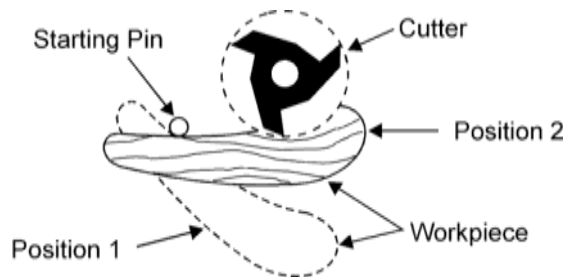

Fig. 40
When the workpiece is not contoured all around, start the cut as shown in Fig. 40. With this operation, the workpiece is positioned against the starter pin and the end swung into place to start the cut. When the cut has begun and the workpiece firmly against the collar, swing the stock away from the pin and proceed with cut.
- The work should be placed in the position (Fig. 40), using the starting pin as a support